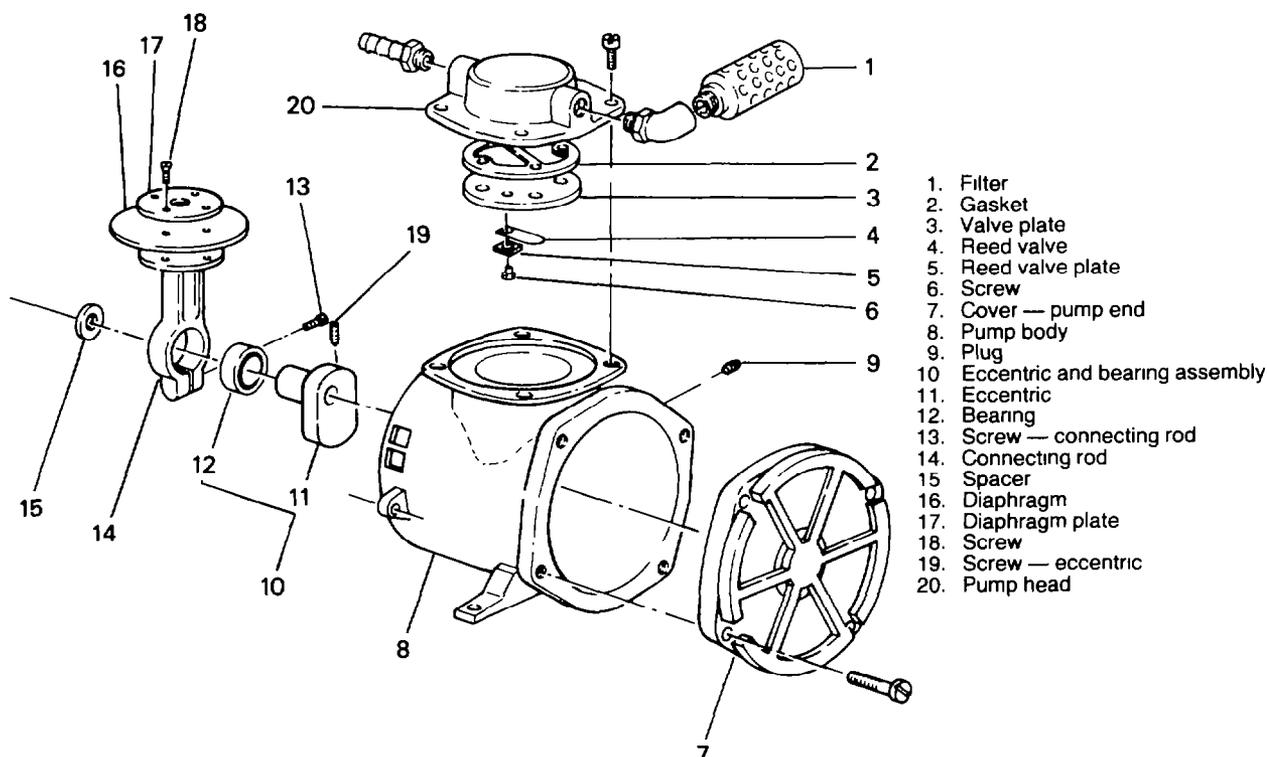

Figure 3 — Suction Pump — Exploded View
- b. Remove the four head mounting screws, then remove the head (see Fig. 3).